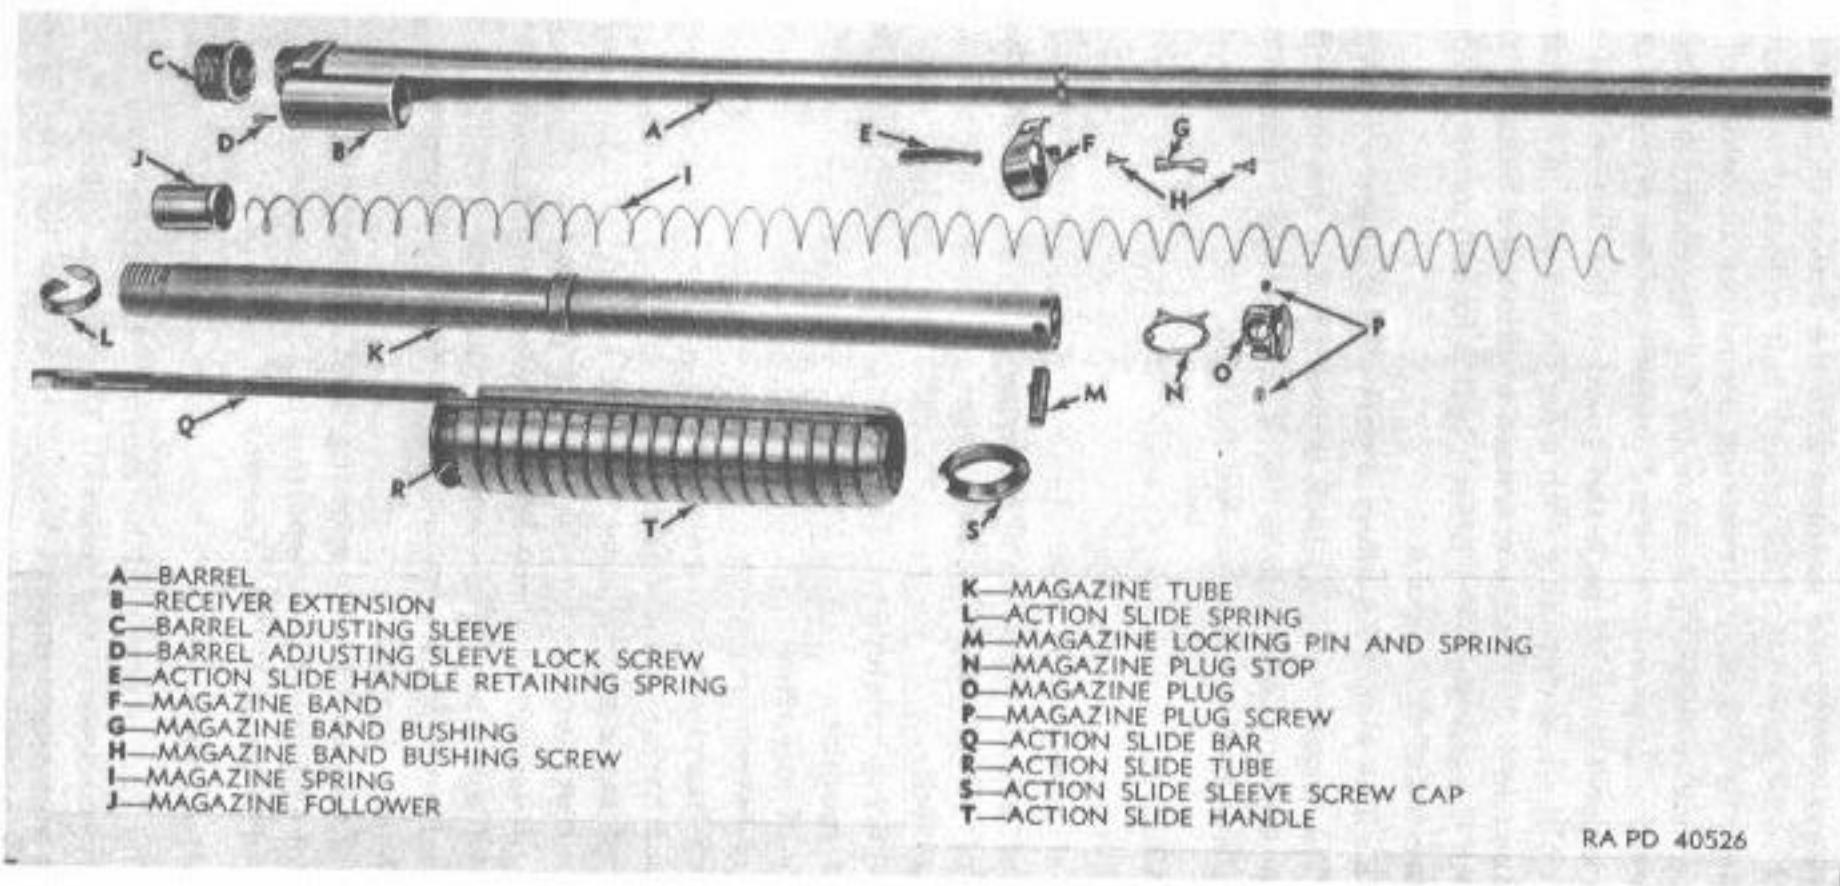

Figure 20—Barrel, Magazine and Action Slide Groups—Disassembled View—
d. General Description (figs. 20, 21, 26 and 27).
(1) The stock of the gun is bolted to the rear end of the receiver and the barrel and magazine locked to the forward end of the receiver as already explained in paragraph b above. The action slide is mounted and operates on the magazine. The rear end of the slide or bar passes through the forward end of the receiver, and engages with, reciprocates, and cam-operates the breech bolt, which in turn operates the carrier and cams back and cocks the hammer.
(2) The receiver contains the operating mechanism; and to its lower rear end is attached the trigger guard to which is mounted the firing mechanism, carrier and action slide lock. The receiver is open at the bottom to permit loading, and the right side for ejection of the fired shell cases. The ejector is seated in the inner left wall of the receiver.
(3) The breech bolt contains the extractors, the firing pin, and firing pin retractor by which the firing pin is cammed back from the face of the bolt and blocked from being driven forward by the hammer until the bolt is locked in position.
(4) The trigger guard contains the hammer, trigger, trigger (safety) lock, carrier, and action slide lock mechanism together with their springs and components.
(5) The magazine which is of the tubular type is positioned beneath the barrel and has a capacity of five shells loaded end to end. The shells are pressed together and fed into the receiver by the force of the magazine spring acting upon the follower.
(6) The shell cut-off is pivoted in the left inner wall of the receiver, just to the rear of the magazine opening and acts to hold the shells in the magazine against the pressure of the magazine spring. The cut-off is operated by the action slide bar to release and block the shells at the proper time, thus allowing but one shell to enter the receiver at a time. The carrier assumes the function of the cut-off while the latter is cammed back from the blocking position by the action slide bar.
16. REMOVAL OF GROUPS (figs. 20, 21, 26 and 27).